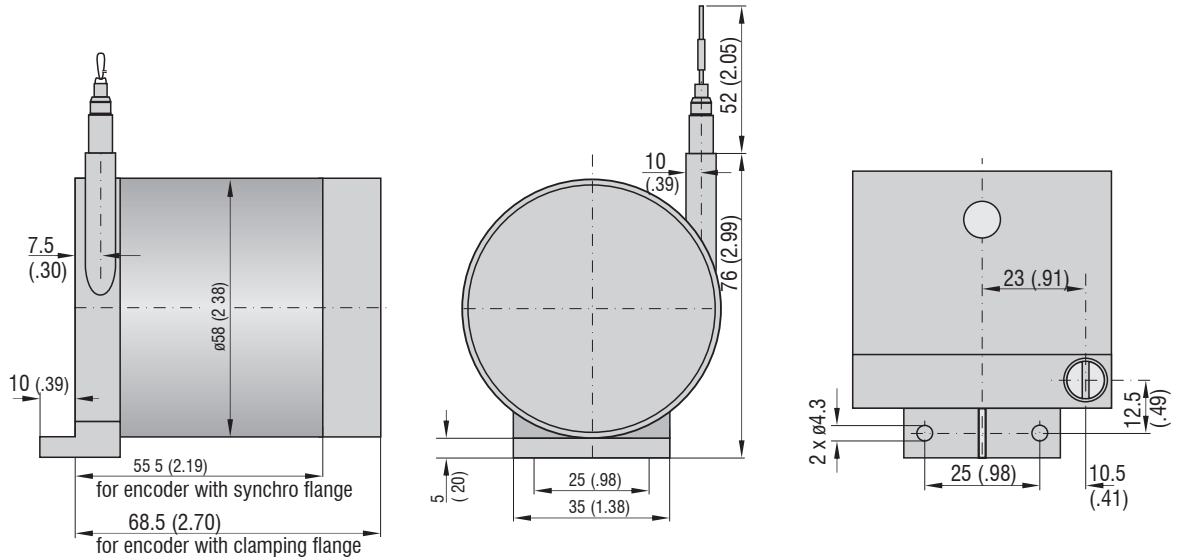

Fig. 2 WDS-Z60-M, dimensions in mm (inches), not to scale
- Series P96: 4x M6 screws DIN 931 and 2 groove stones, see Fig. 2.